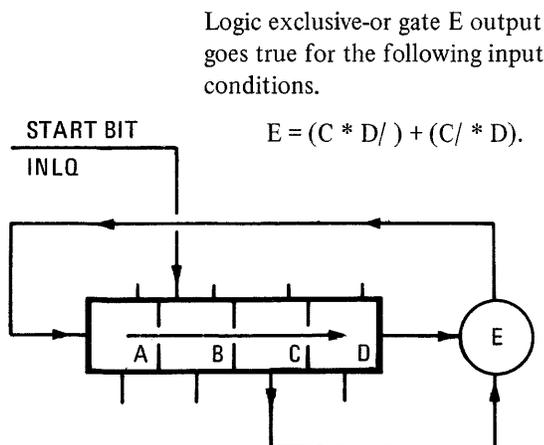

Figure 2-2. Simple Shift Register.
An introduction to bit pattern generator theory begins with an example of a 4 stage shift register as shown in Figure 2-2. The actual word generator in the FCT will be related to this simple 4 stage shift register, later in this section.
Consider a 4 stage shift register A thru D as shown in Figure 2-2. The signal INLQ inserts a bit into the B stage for the first word of the Test sequence. Each stage output is connected to the following stage input. Exclusive-or gate (E) obtains its inputs from the shift register outputs C and D. Input to stage 1, is obtained from the exclusive-or gate output. All shift register stages A through D transfers the bit pattern to the next stage at clock time.
Figure 2-3 shows the bit patterns generated in sequence from the shift register, as shown in Figure 2-2. Start bit INLQ begins the sequence by forcing stage B to hexadecimal 4. Clock 1 shifts this bit into stage C giving a value of hexadecimal 2. The exclusive-or gate E goes true to enable the stage A input on the next clock pulse. Clock 2 sets stage A by the true exclusive-or condition, and shifts the start bit INLQ into stage C. At the end of clock 2 the register value equals hexadecimal 9. This sequence continues as shown in Figure 2-3, until Clock 15, where the series of hexadecimal bit patterns are repeated.
The term shift register, has been used to describe a simple 4 stage shift register as shown in Figures 2-2 and 2-4. But for the large 138 stage version, it is known as a word generator.